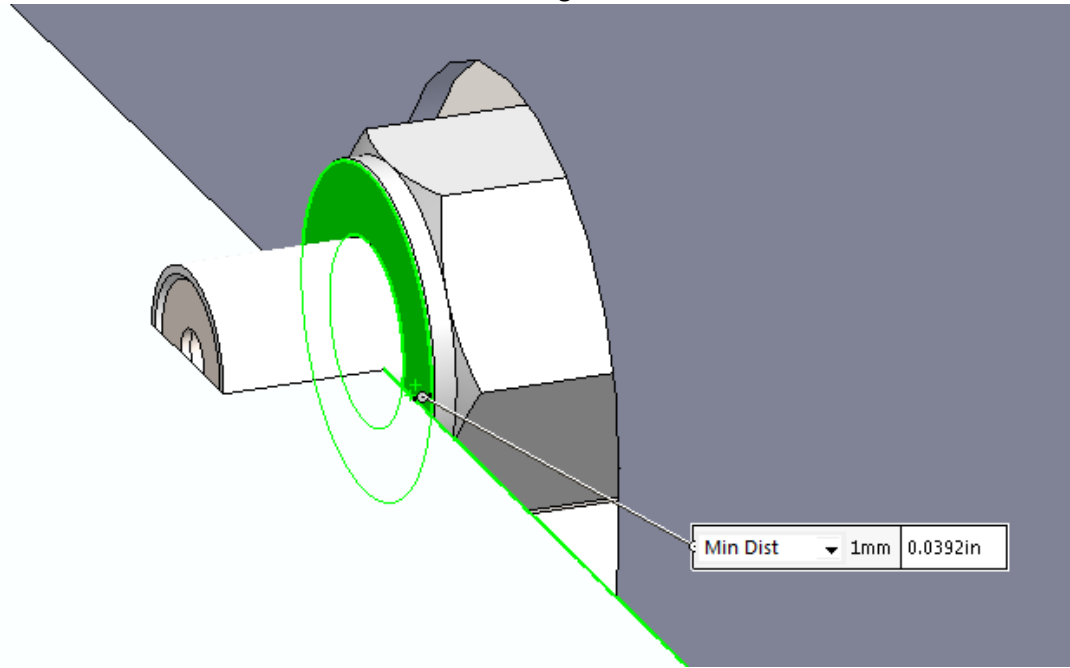

Figure 38: Allow a 1m gap between the backside of the mold and nozzle nut
- b. If the backside of the mold-set is touching the nut on the nozzle, the mold-set will immediately pull heat from the nozzle and cool down the nozzle. The drop in temperature is not large enough for the temperature sensor to detect, but may result in a high pressure error. Ensure that at an air gap of at least 1mm exists between the mold-set and the nozzle nut as shown in Figure 38.